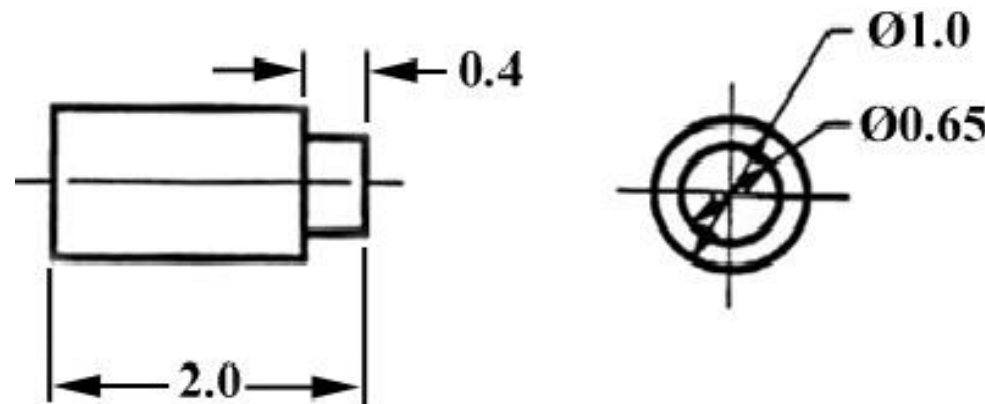

Figure 6 - An object needing only two orthogonal views
- For example, some objects need only two views, while others need four. The circular object in figure 6 requires only two views.